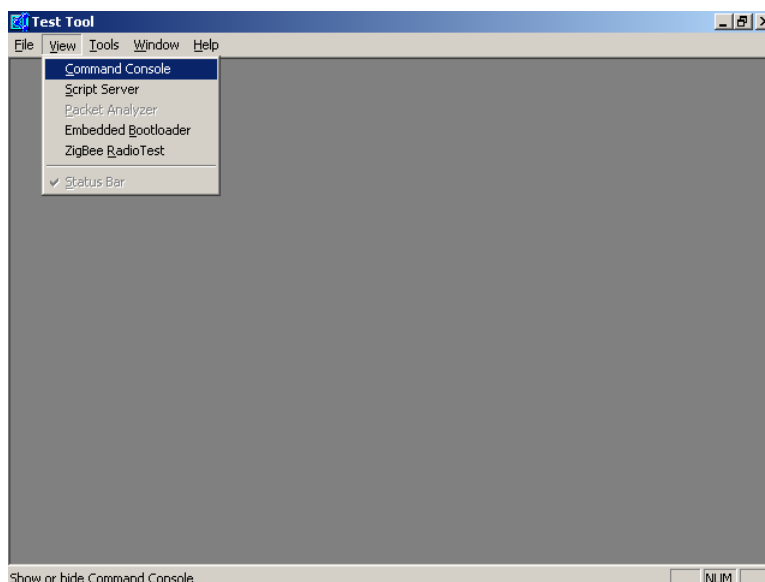

Figure 6-2. Test Tool Window (Command Console Select)
1. Start the Test Tool Application as previously described, then launch the Command Console application by clicking on View->Command Console as shown in Figure 6-2.